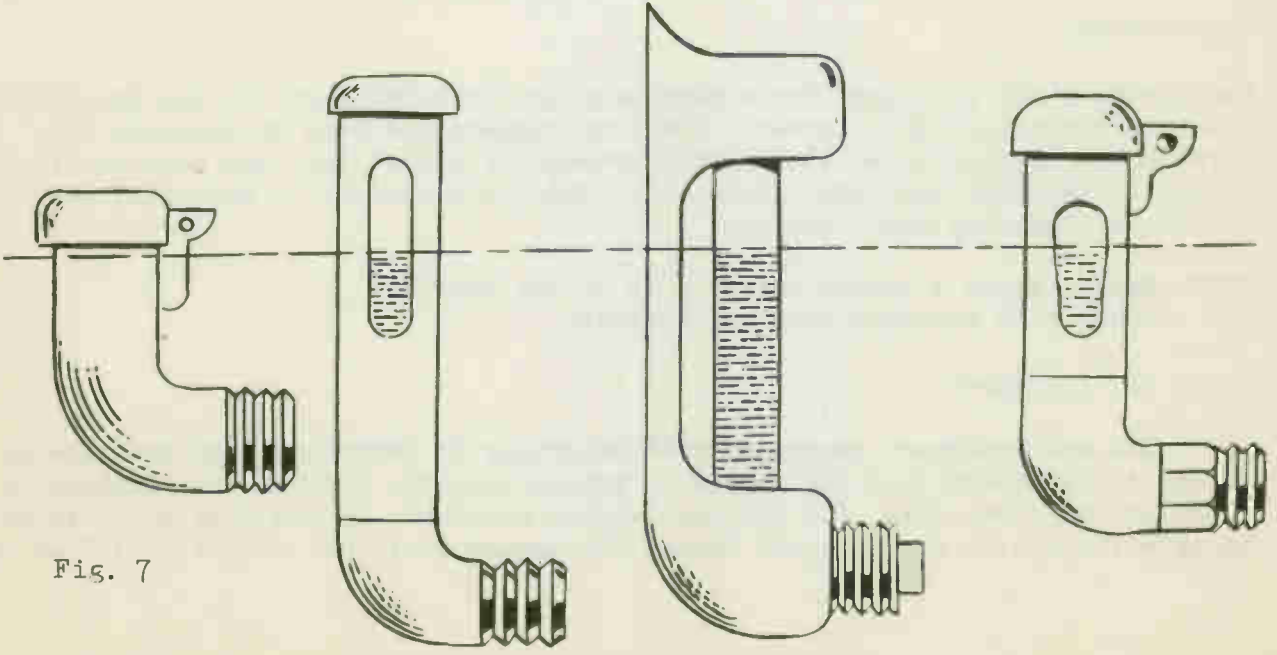

Fig. 7
- e. Oil filler gages should be at about 1/8 of an inch from top, Fig. 7.